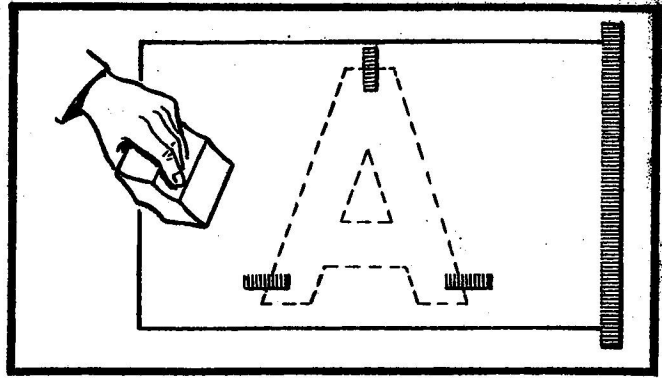

Figure 2
- (e) Cut a piece of application tape (Item 4) 4 inches larger in both dimensions than the decalcomania. Place it over the decalcomania and wipe down with the plastic squeegee. Put a strip of masking tape on one edge to serve as a hinge, see Figure 2.